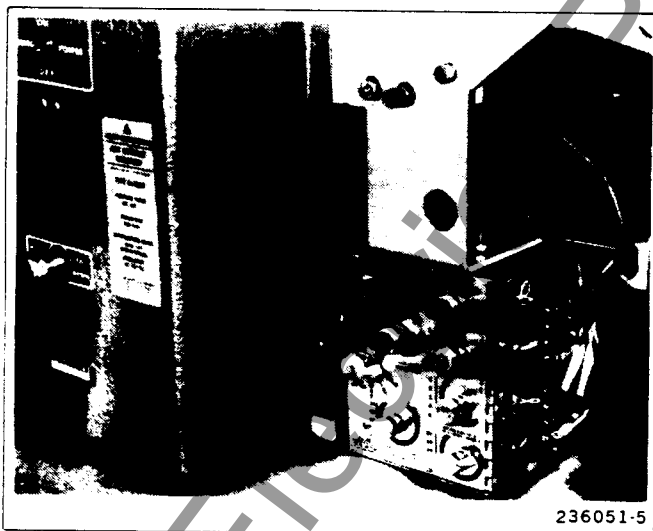
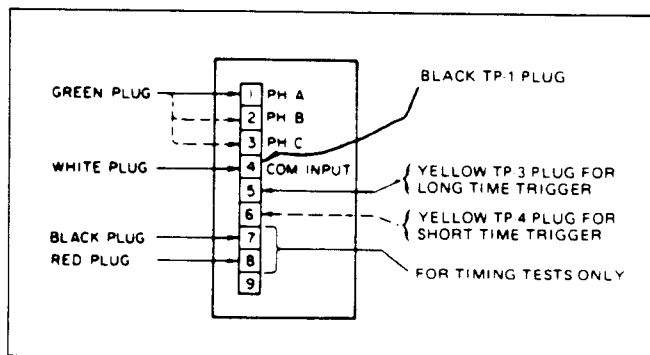
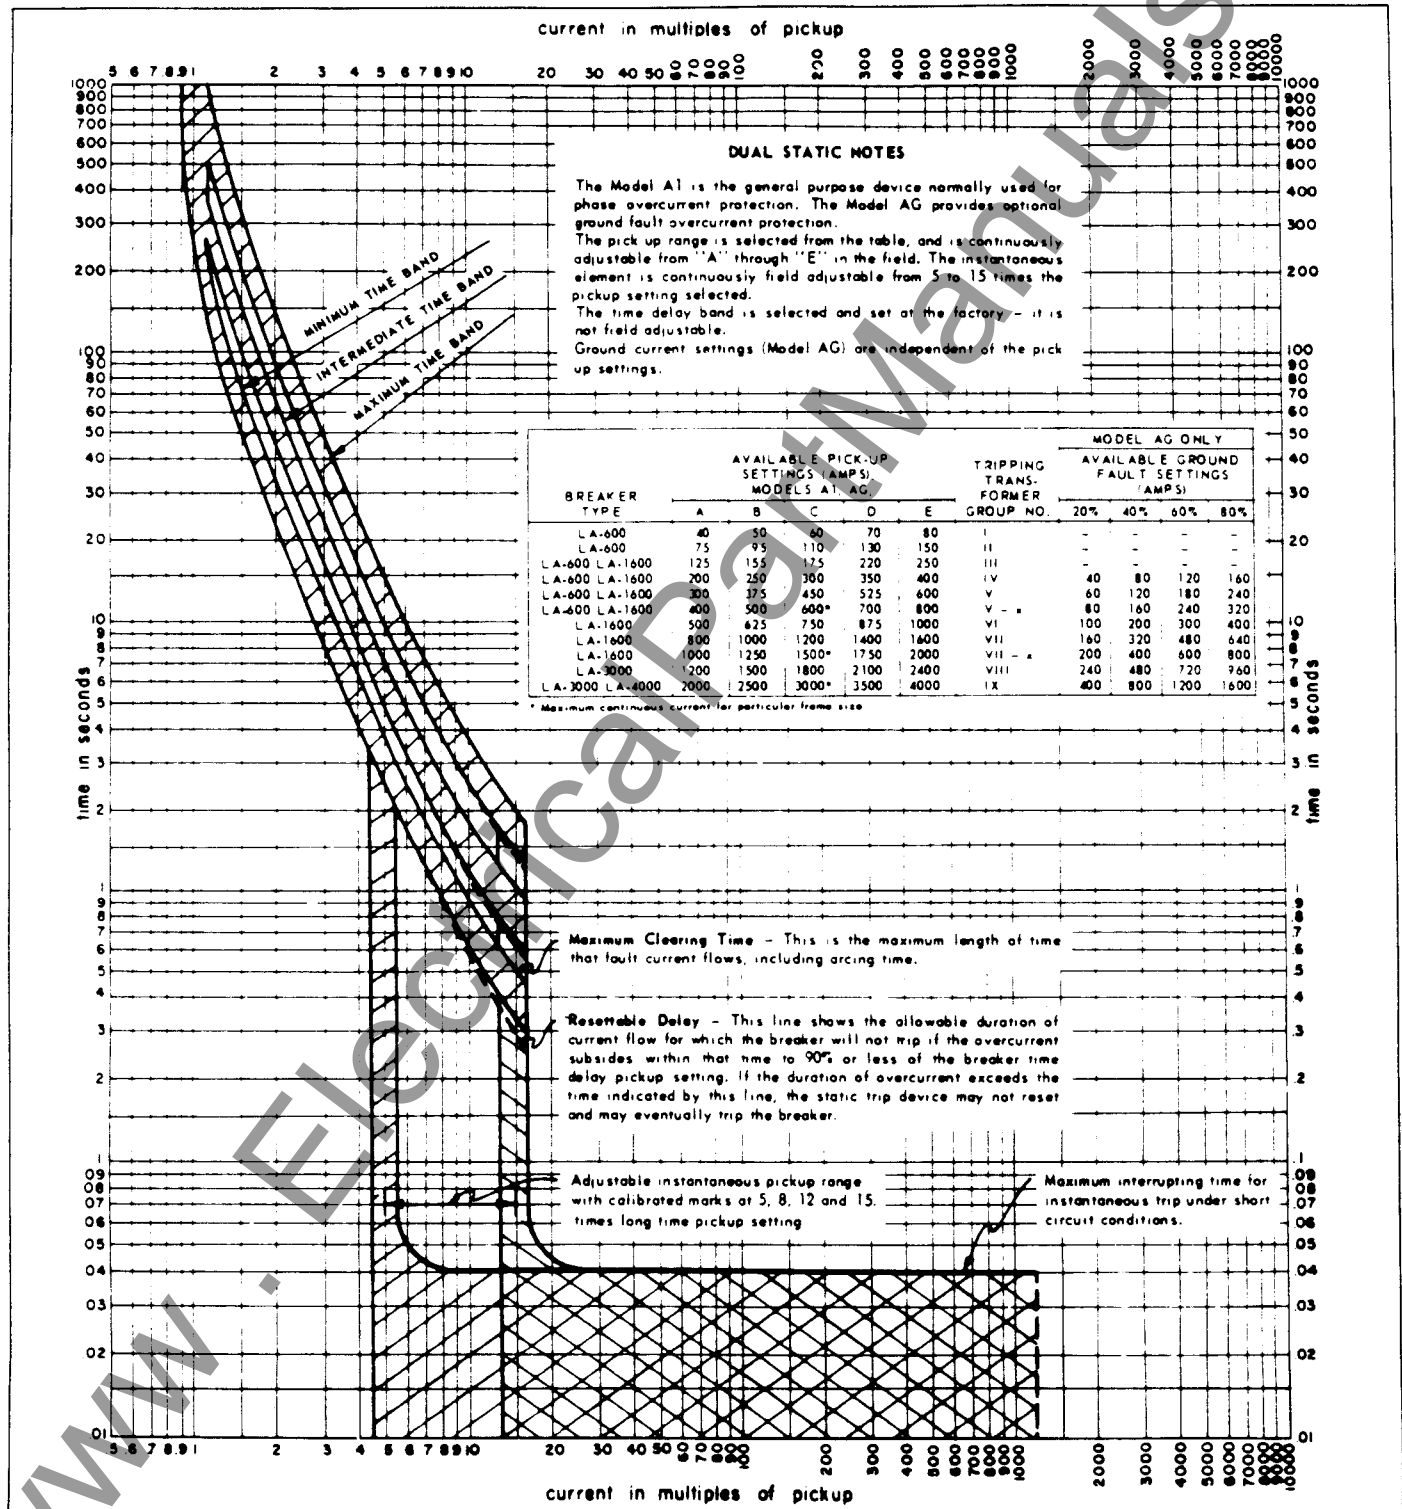

Figure 6. First Generation Static Trip-Terminal Block Is Located on Right Side
Figure 7A. Test Connections Models A, A1, A2, A2, C3, D, D1, D2
Figure 8A. Time Current Curves — Models A, A1, A2, AG, AG1
If the time delay is tested at an input current 6 times the pick-up setting, the nominal time delays will be as shown in the table on the trip device. Maximum and minimum limits can be determined by reference to the time current characteristic curves, Figure 6.
5. Press the START button. The breaker should trip in 0.4 and 0.5 seconds. See Figure 6. If the device has a target, its red button should pop out.
The connections to the first generation trip devices terminate on an 8 or 9 point terminal block mounted on the side of the device. See Figure 6. To allow using the test set plugs to connect to this terminal block, alligator clips are furnished with the test set to clip onto the terminal block screws. Four of the clips accept the four banana plugs and three accept the pin plugs for the pick-up lights. The bottom line of Table 3 gives the calibrated settings for secondary amperes for the first generation trip devices and on the same page, available models are listed and described. Figures 8A, 8B, 9, 10 and 11 are the time current characteristic curves for the various models. Connections from the test set are different for different models and are shown on Figures 7A through 7D.
"Instantaneous Trip Setting". (4) The Short Time Pick-Up is labeled "Transfer to Short Time". (5) There are no test jacks provided on the front of the device. Connections for trigger indication are made to points on the terminal block as shown in Figure 7A to 7D. (6) On STATIC TRIP II™ the knob reference dots (knob counterclockwise against stop) are black and the calibration dots are red. On first generation trip devices the reference dots are red and the calibration dots are black on some models and white on others.
Keeping the above differences in mind and making careful reference to the appropriate connection diagram on Figure 7A to 7D, the test instructions in "Testing Static Trip on the Breaker" (omitting the connection instructions in each case), can be used for testing first generation trip devices also. Compare the test results with Table 3 and Figures 8A, 8B, 10 and 11 as applicable.